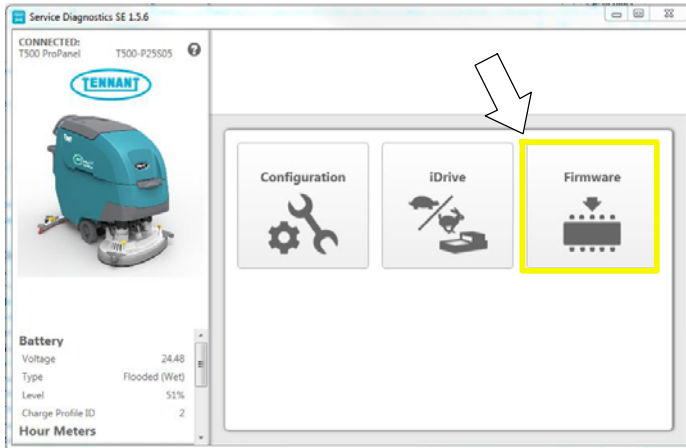

Fig. 18
5. Once connected, the home screen will appear (Figure 18). If firmware updates are required, the “Firmware” button will be highlighted in yellow as shown. Press the button to update the machine’s firmware.